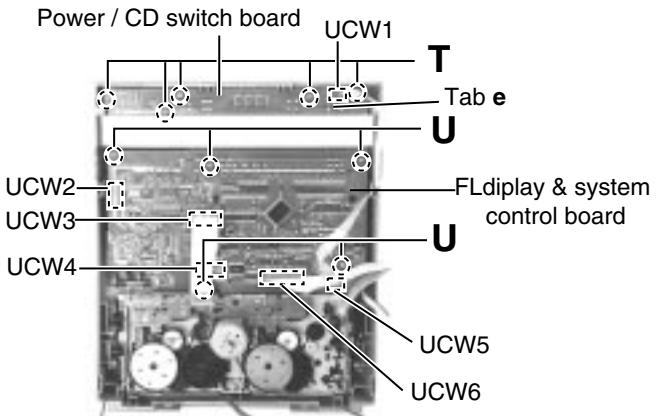

Fig.22
■Removing the power / CD switch board (See Fig.22)
(See Fig.22 and 23)